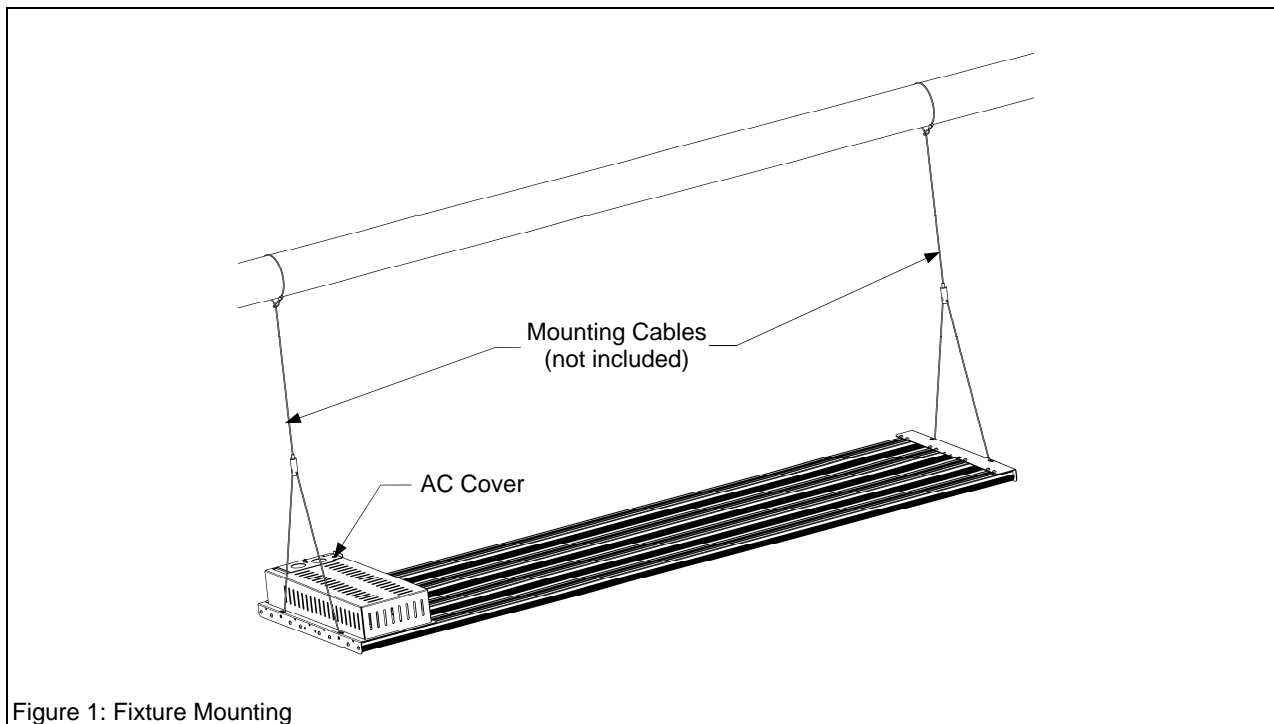

Figure 1: Fixture Mounting
2. **Wiring.** To connect AC power, remove AC cover (Fig. 1), knockout one location and install appropriate strain relief bushing for the hole size provided. Make power connections (Fig. 2) per national and local electrical codes. Route power supply through strain relief and tighten strain relief. Connect supply ground to ground screw provided, supply neutral to neutral wire in box and supply voltage line to voltage wire in box. Replace AC cover when all connections have been made.